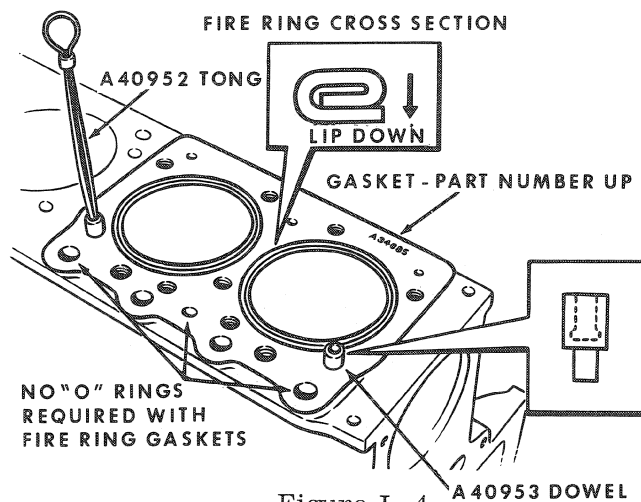

Figure L-4
- Figure L-4. Regular line-up studs could be used for most engines. In some instances it is very difficult to install the